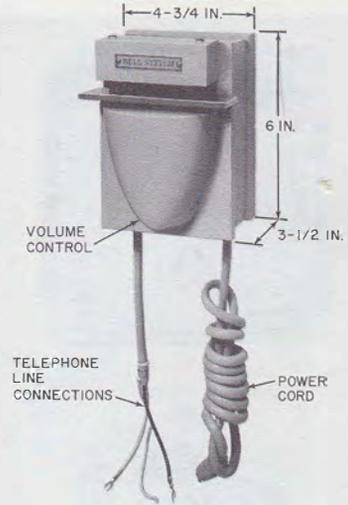

Fig. 3—KS-8229 Chime (MD)
C. KS-8229 (MD) Signal Chime
- 6.06** The volume of the KS-8229 (MD) signal chime (Fig. 3) may be adjusted by a screw. No other adjustment should be made. Should the plunger stick in its guide, remove plunger and clean with mineral spirits. If this does not correct operation, replace signal device.